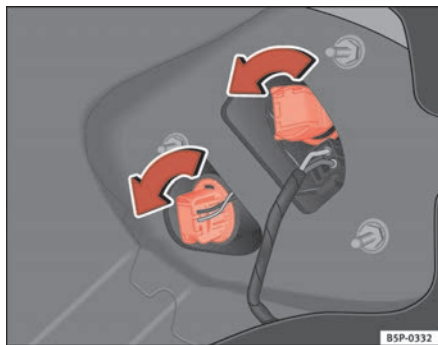

Fig. 194 Lights on vehicle body
- Turn the lampholder to the left ⇒ fig. 194.